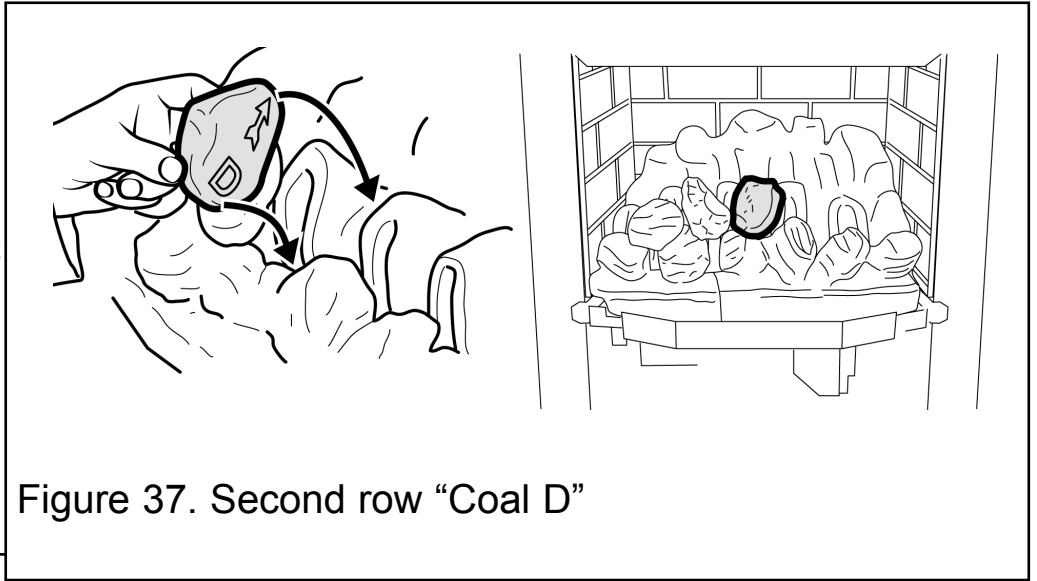

Figure 37. Second row "Coal D"
**11.** Hold coal 'D' upright with the arrow pointing to the top. Locate coal 'D' as shown in figure 37.